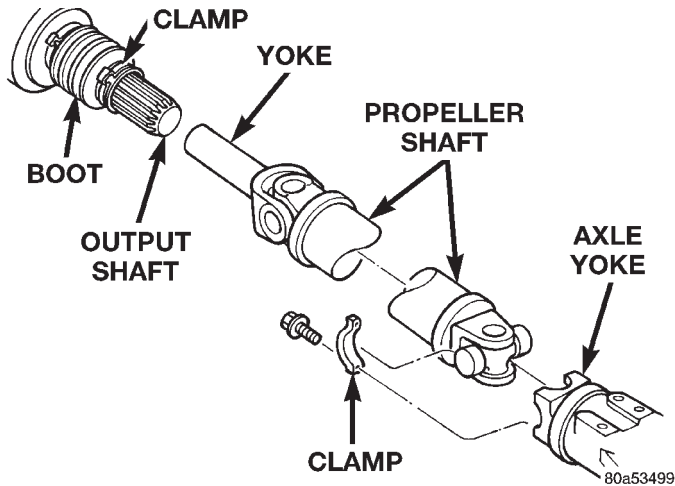
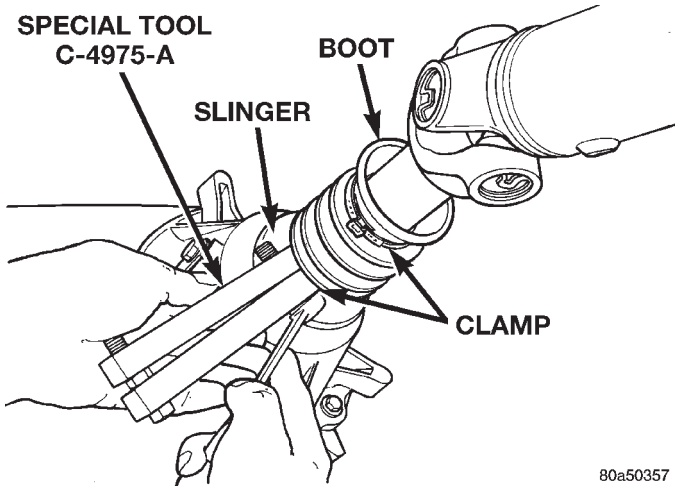

Fig. 16 Rear Propeller Shaft
Fig. 17 Crimping Dust Boot Clamp
- (6) Slide the slip yoke off of the transmission/transfer case output shaft and remove the propeller shaft (Fig. 16).
- (1) Slide the slip yoke on the transmission/transfer case output shaft. Align the installation reference marks at the axle yoke and install the propeller shaft (Fig. 16).
- (2) Tighten the U-joint strap/clamp bolts at the axle yoke to 19 N·m (14 ft. lbs.) torque.
- (3) Crimp clamp to hold dust boot to propeller shaft yoke (Fig. 17).
- (4) Lower the vehicle.